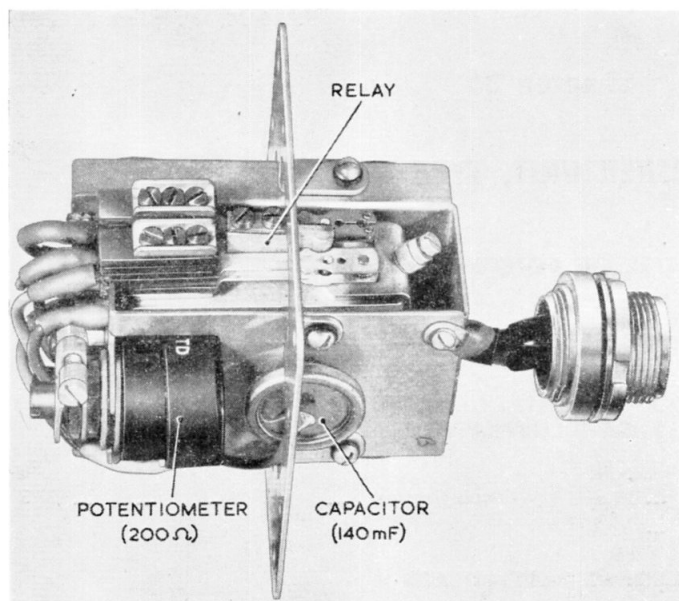

Fig. 2. View of mechanism
2. The mechanism of the flasher (*fig. 2*) is contained in a sealed metal can, the square mounting flange being held between the flanged halves of the can. A 3-pole Mk. 4 miniature plug is secured to one end for making the external electrical connections.